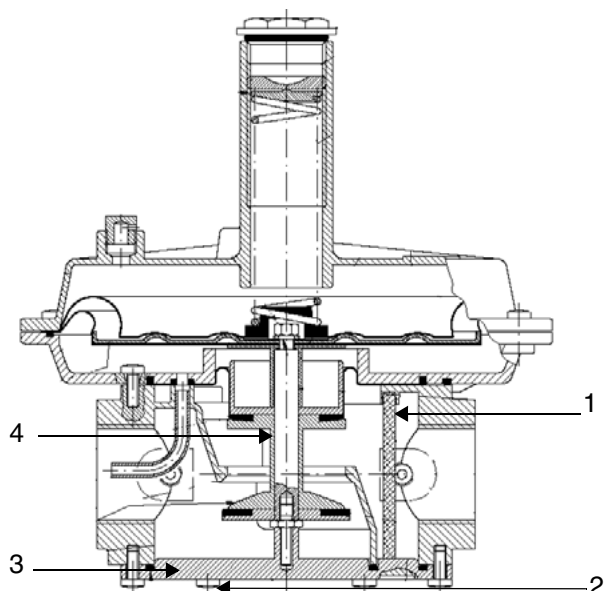
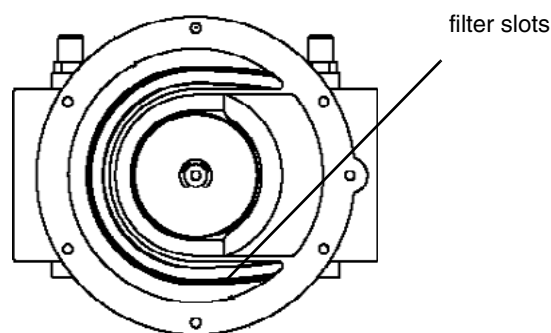

Fig. 25 - threaded body
Fig. 26 - threaded body without bottom cover
To check the filtering part (1) on threaded bodies (see Fig. 25):
- remove the filtering part (1), clean it with water and soap, blow it with compressed air or replace it if necessary;
- reassemble the filtering part in its initial position checking that it is placed in its own slots (see Fig. 26);
- reassemble the bottom cover (3), being sure that the main bolt is centered in the bottom cover slot.